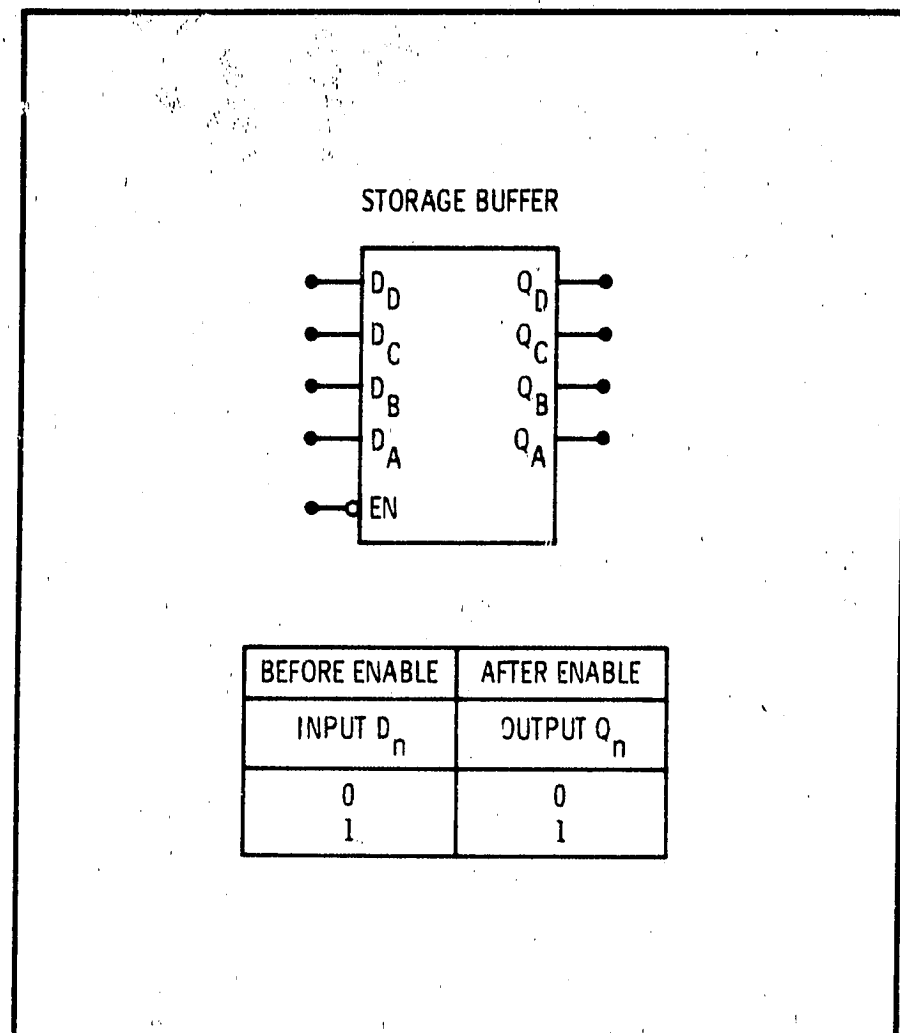

Figure 8-4. Storage Buffer
**8-28. Storage Buffer.** The four bit binary register shown in Figure 8-4 is used as a storage latch. Information data ( $D_n$ )\* inputs is transferred to the respective  $Q_n$ \* outputs when the enable (EN) input is low. When the enable goes high, the outputs are latched and are no longer affected by the data inputs.